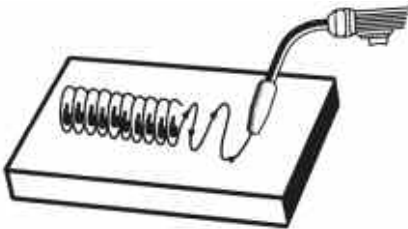

Figure 20. Weave Bead
2. The **WEAVE BEAD** (Figure 20) is used when you want to deposit metal over a wider space than would be possible with a stringer bead. It is made by weaving from side to side while moving with the gun. It is best to hesitate momentarily at each side before weaving back the other way.